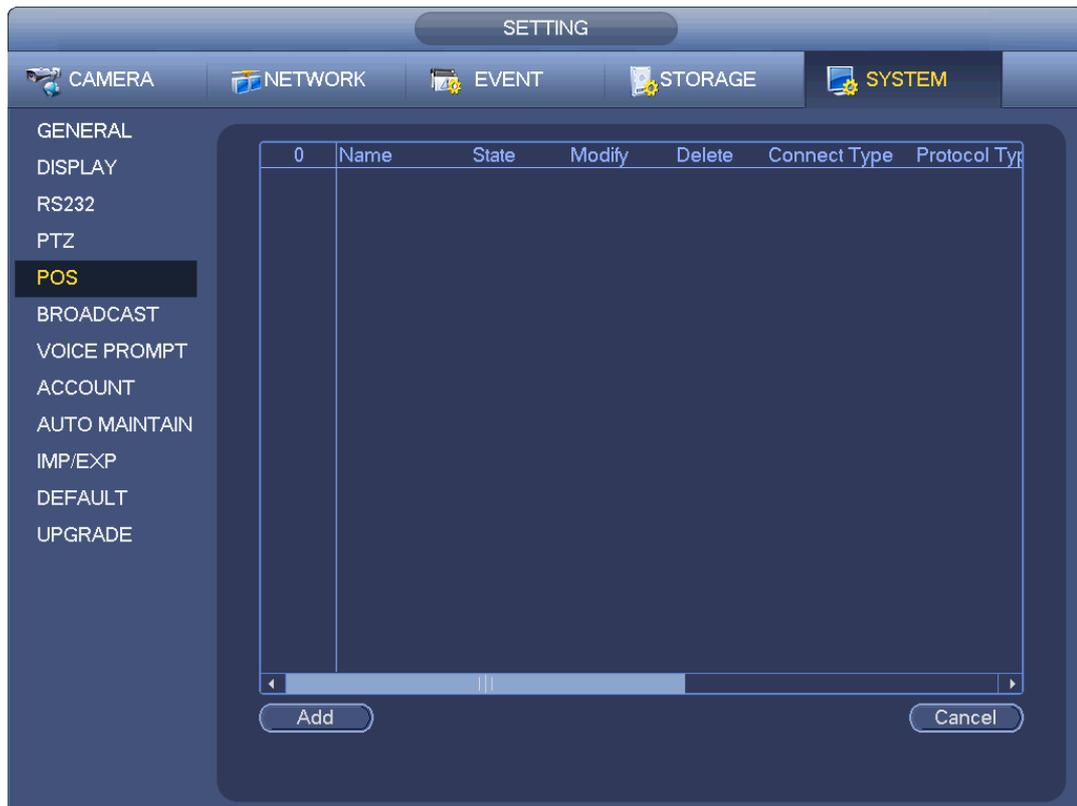

Figure 2-158
Step 1 From main menu->Setting->System->POS, the interface is shown as below. See Figure 2-158.